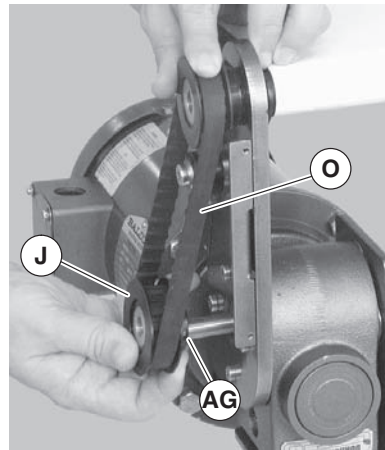

Figure 23
If drive pulley (Figure 23, item J) is replaced, wrap timing belt around drive pulley and complete step 3.
3. Loosen drive pulley set screws (Figure 23, item AG). Remove drive pulley (J) and timing belt (O).
Drive pulley (Figure 23, item J) is removed. Wrap timing belt around drive pulley and complete step 16.